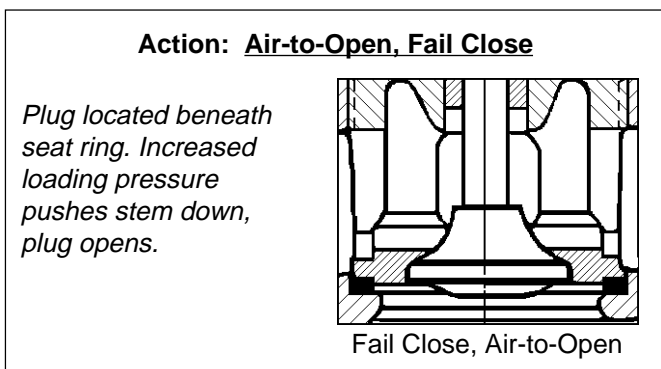

Figure 4: Seat and Plug Assembly, ATO-FC
10. Remove gaskets (5), (8), clean gasket facing surfaces and replace with new gaskets (5) and (8).
11. For ATO-FC units, place seat ring (3), over end of stem (4.6) in proper orientation, and insert the plug and stem assembly (4) through bonnet (2) until it appears at top side of the bonnet (2). See Figure 4.
1. Changing valve action from Direct (ATC-FO) Action to Reverse (ATO/FC) Action or vice versa is accomplished not in the actuator, but in the body by reversing the orientation of the plug and stem assembly (4) with respect to the seat ring (3). See Figures 4 and 5. This requires disassembly of the trim; follow procedures in steps IV.C.1 through 15.